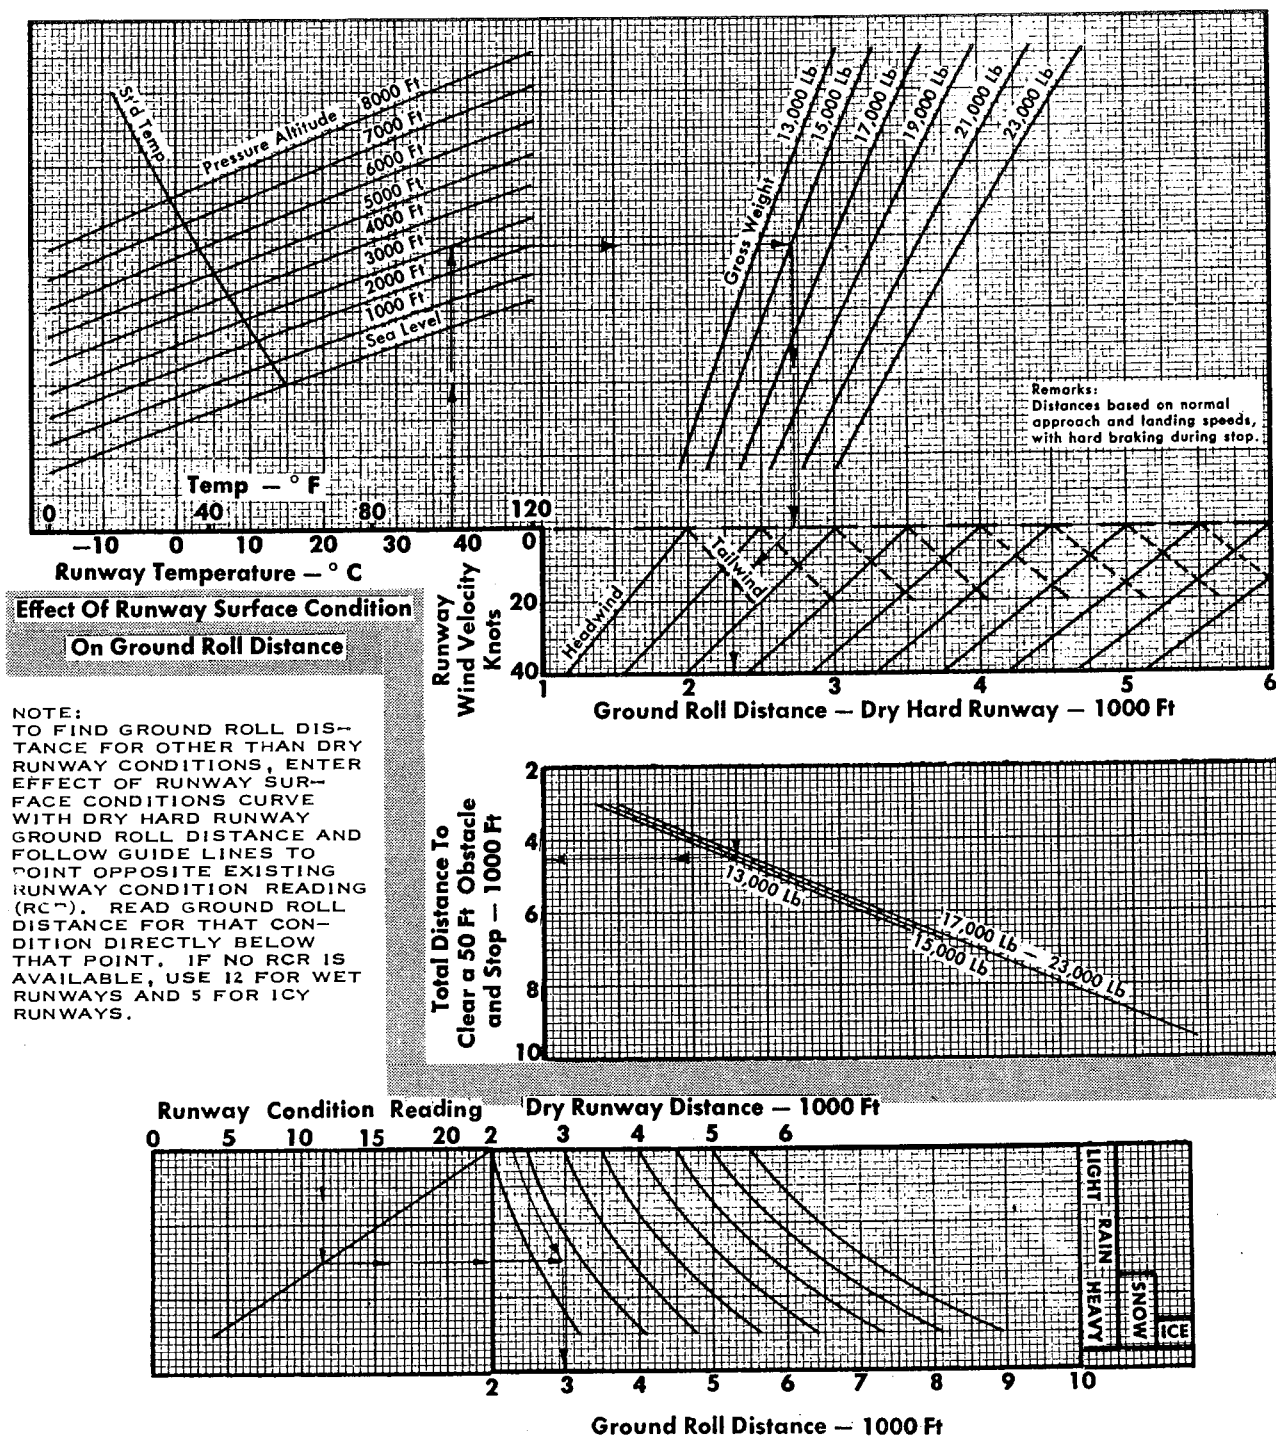
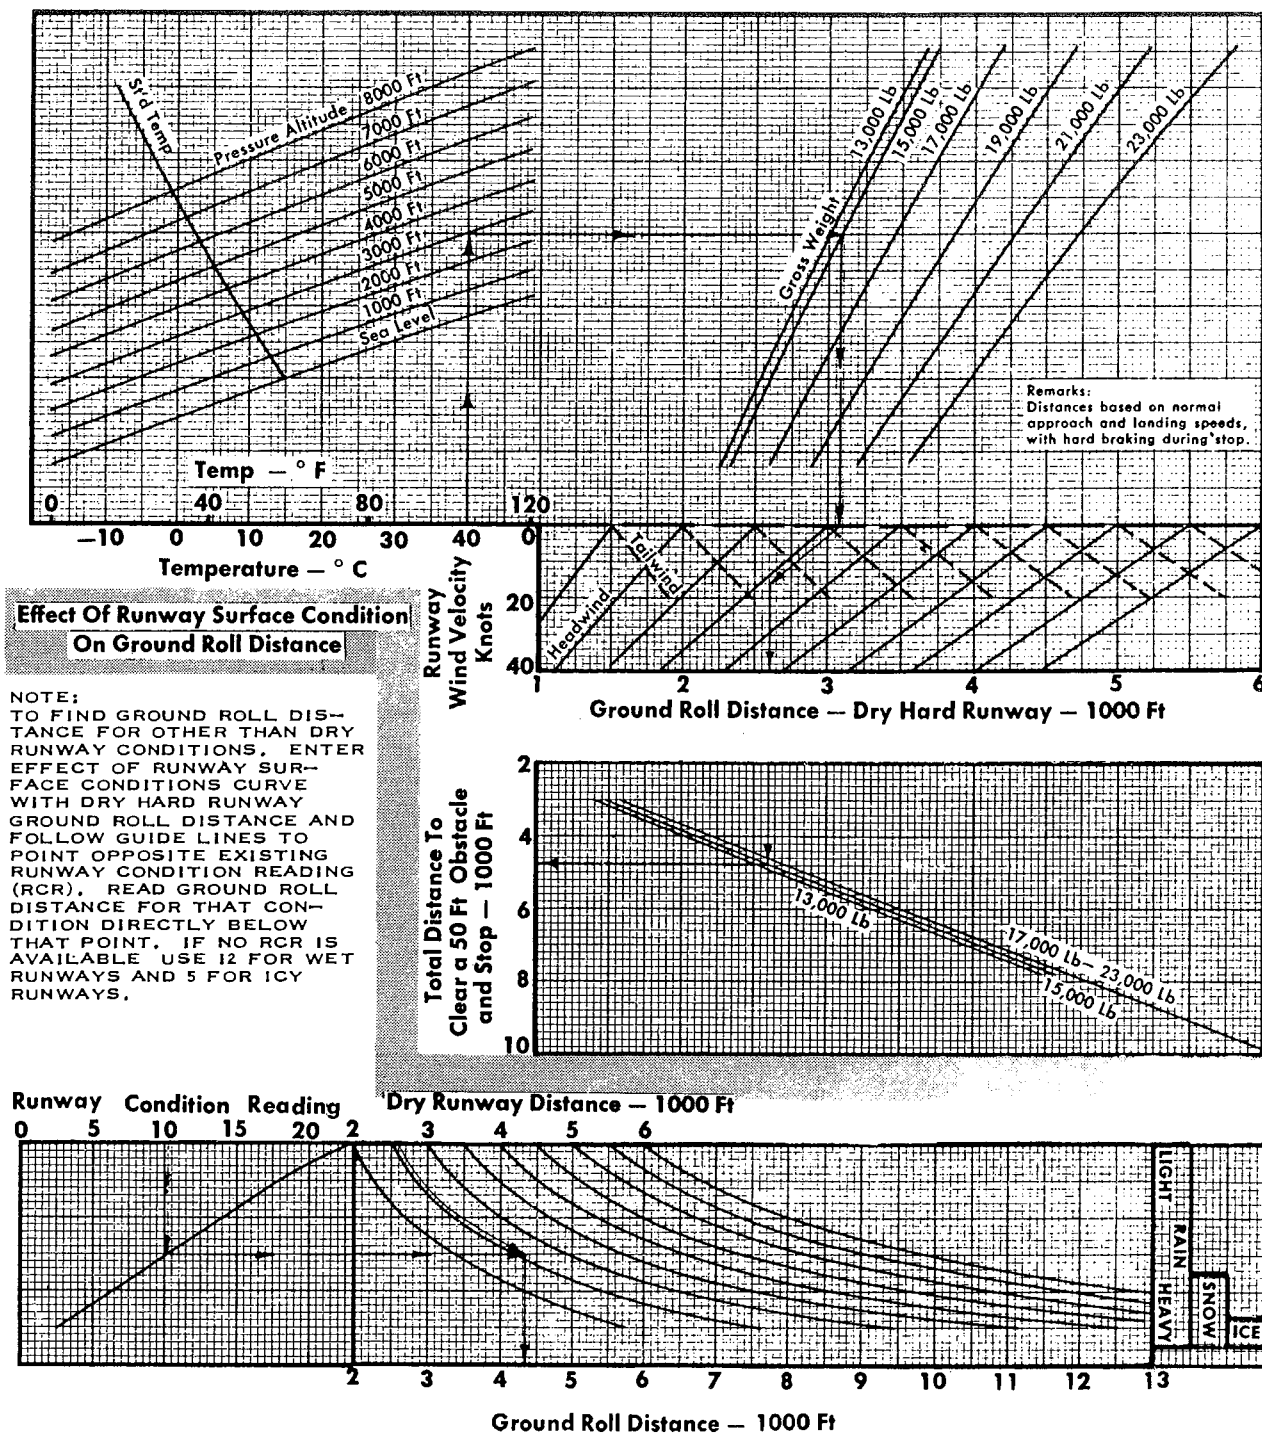

Figure A8-3
Figure A8-4
Figure A8-3 presents landing ground roll distances and distances required to clear a 50-foot obstacle, land, and stop when the 18-foot drag chute is deployed during ground roll to assist wheel braking. Values shown are directly applicable to operation with landing flaps, hard dry runway surface conditions, and runway wind component speeds from 20-knot tailwinds to 40-knot headwinds. A correction grid is provided for obtaining the ground roll distance under various runway surface conditions. Distances reflect results of flight tests with normal speed schedules for approach and touchdown, and hard wheel braking without skidding for the subsequent stop. Normal performance assumes that an approach flight path slope of approximately $2\frac{1}{2}^\circ$ is maintained by use of thrust until the 50-foot obstacle point is cleared, and that thrust is reduced smoothly during the flare to just above Idle at the touchdown point. It also assumes a smooth rotation from touchdown attitude to nosewheel contact,
- a. From Figure A8-3, the ground roll distance from touchdown to stop for a level runway with an 18-knot headwind is 2300 ft.
Figure A8-4 shows landing distances to be expected when the drag chute is not deployed and hard wheel braking is used for the stop. Performance is based on the same speed schedules as for normal operation with the drag chute.
As discussed above, if hard braking is not used operationally, the pilot should ensure that landing field lengths in excess of those shown in Figure A8-4 are available.
The minimum recommended touchdown speed for maximum performance landings is 5 knots less than that used for normal operation. This will result in landing ground roll distances 5% less than shown for hard braking on Figure A8-3 and Figure A8-4.